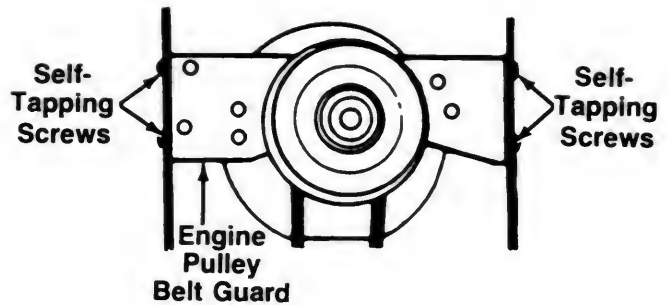

FIGURE 24.—Model 754F
5. Remove the two self-tapping screws on each side of the frame which hold the engine pulley belt guard to the frame. See figure 24. Remove the engine pulley belt guard by slipping it forward and down.